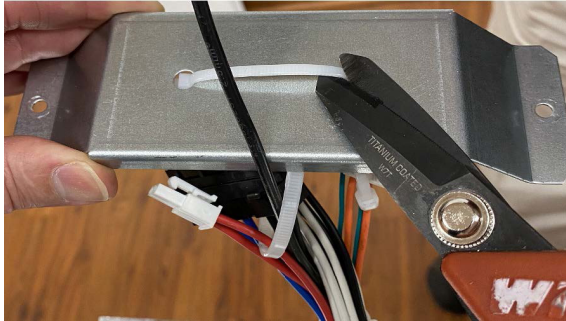

Fig. 59 Remove egress cover
4. Remove the egress cover from the harnesses (Fig. 59).